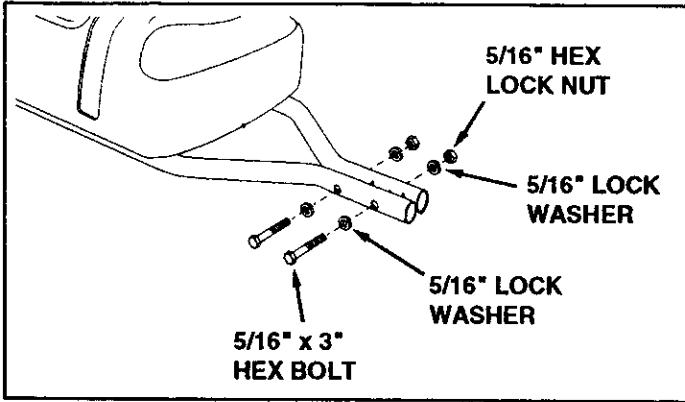

FIGURE 3
- Fasten the hitch tubes together at the front using two 5/16" x 3" hex bolts, four 5/16" lock washers and two 5/16" hex lock nuts. **Do not tighten yet.** See figure 3.
- **Tighten** the two bolts which fasten the front of the hitch tubes together. See figure 3.